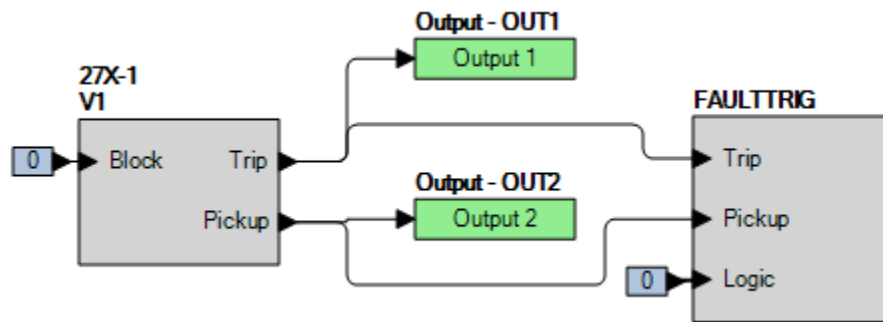

Figure 67-2. BESTlogicPlus Settings (V1 Mode)
- Step 2: Use BESTCOMSP*lus* to configure the BESTlogic*Plus* programmable logic shown in Figure 67-2.
- Step 4: Prepare to monitor the 27X-1 function operation. Operation can be verified by monitoring OUT2 (see Figure 67-2).